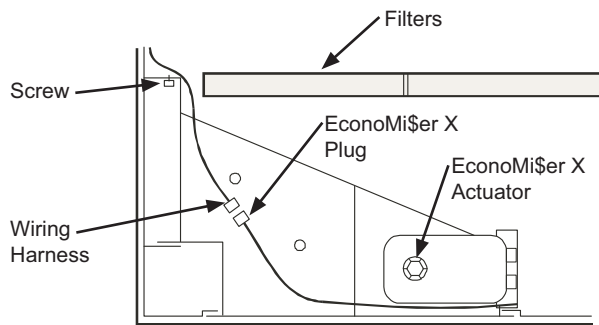

Fig. 18 - Top View of Horizontal EconoMi\$er X Installed in Unit
6. Insert the EconoMi\$er X assembly into the rooftop unit positioning the EconoMi\$er X to the far left side of the opening (See Fig. 18).
9. Install a screw through the pre-punched hole in the EconoMi\$er X into the flange on the horizontal duct opening (See Fig. 18).